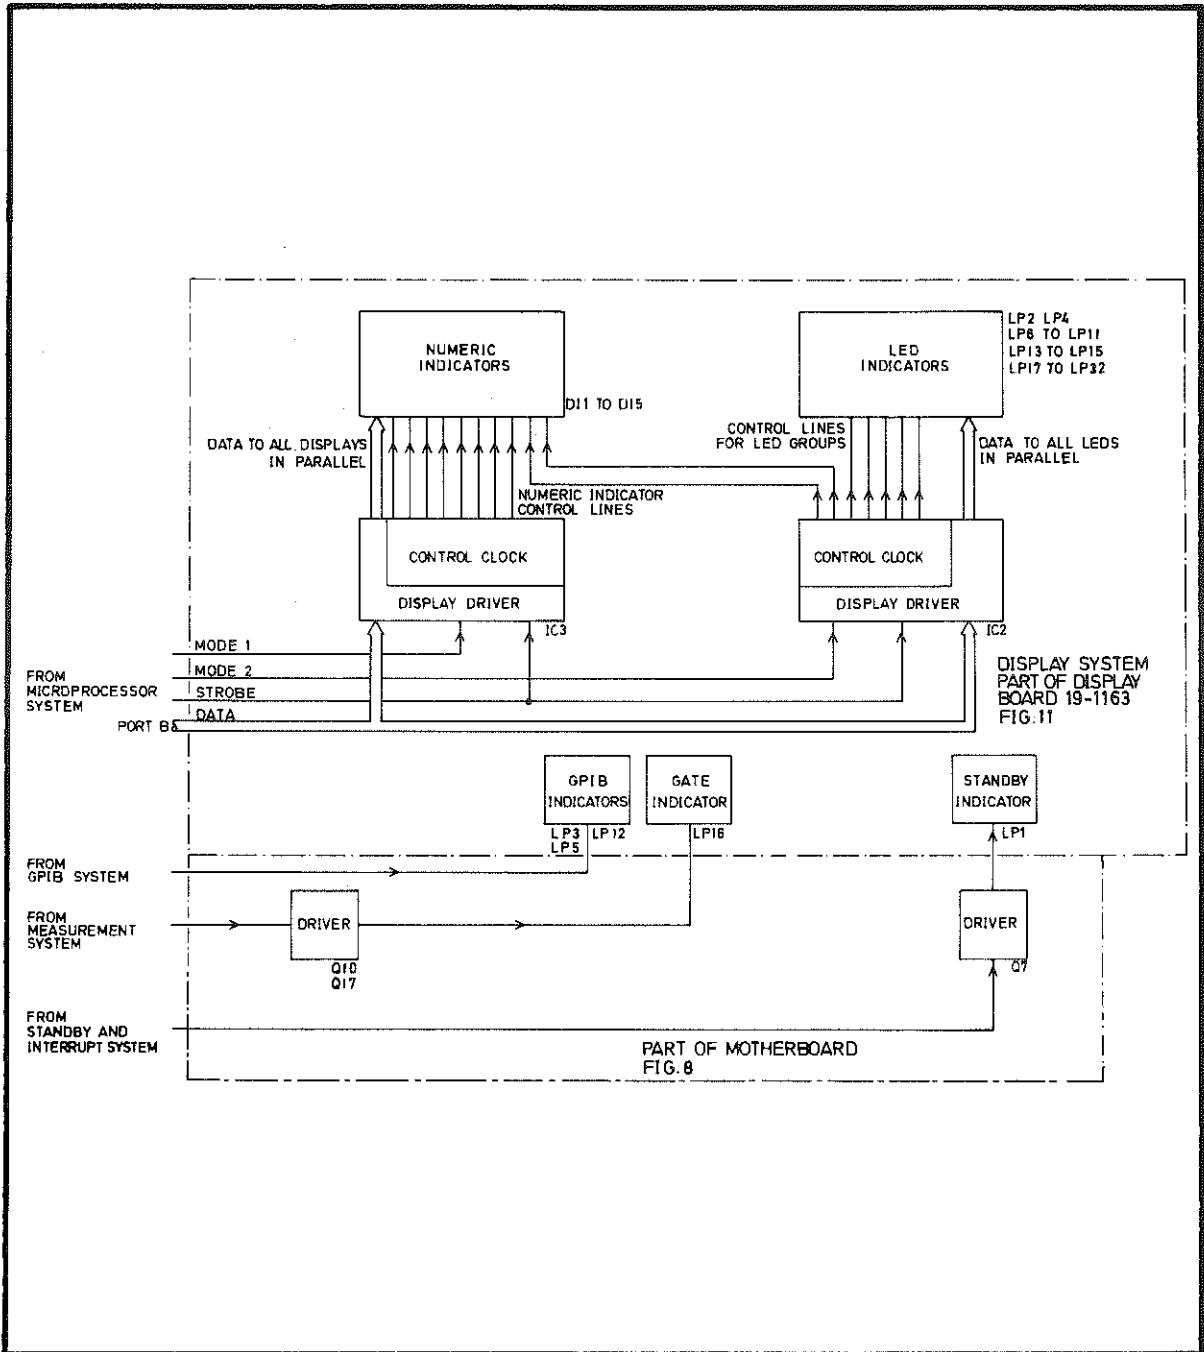

Fig 6.7 The Display System
- 66 A block diagram of the system is given in Fig 6.7. The GPIB indicators, the GATE indicator and the STANDBY indicator are held on or off by control signals from other systems. The remainder of the display is multiplexed under the control of the display drivers.